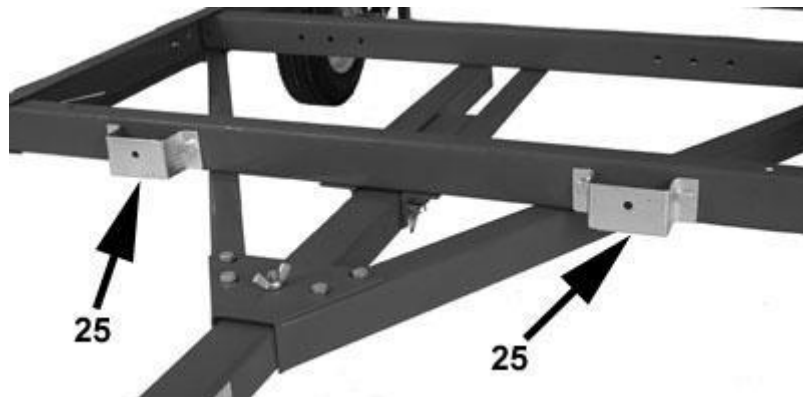

Figure 8-1
1. Install remaining stake pockets (25) on the front and rear of trailer with M10 x 20 bolts and M10 nylon lock nuts. See figure 8-1.